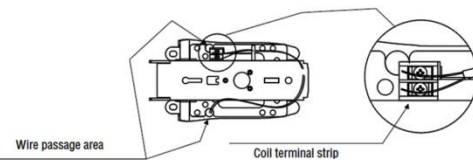

fig. 11
- Connect the wires to the coil terminal strip by leading them under the contact plates, then tighten the fixing screws (fig. 11).
- W.B.:** if, for any reason, a wire must be led out to the opposite side with respect to the coil, lead it out of the lock rear side and not directly over the lock case (fig. 11).